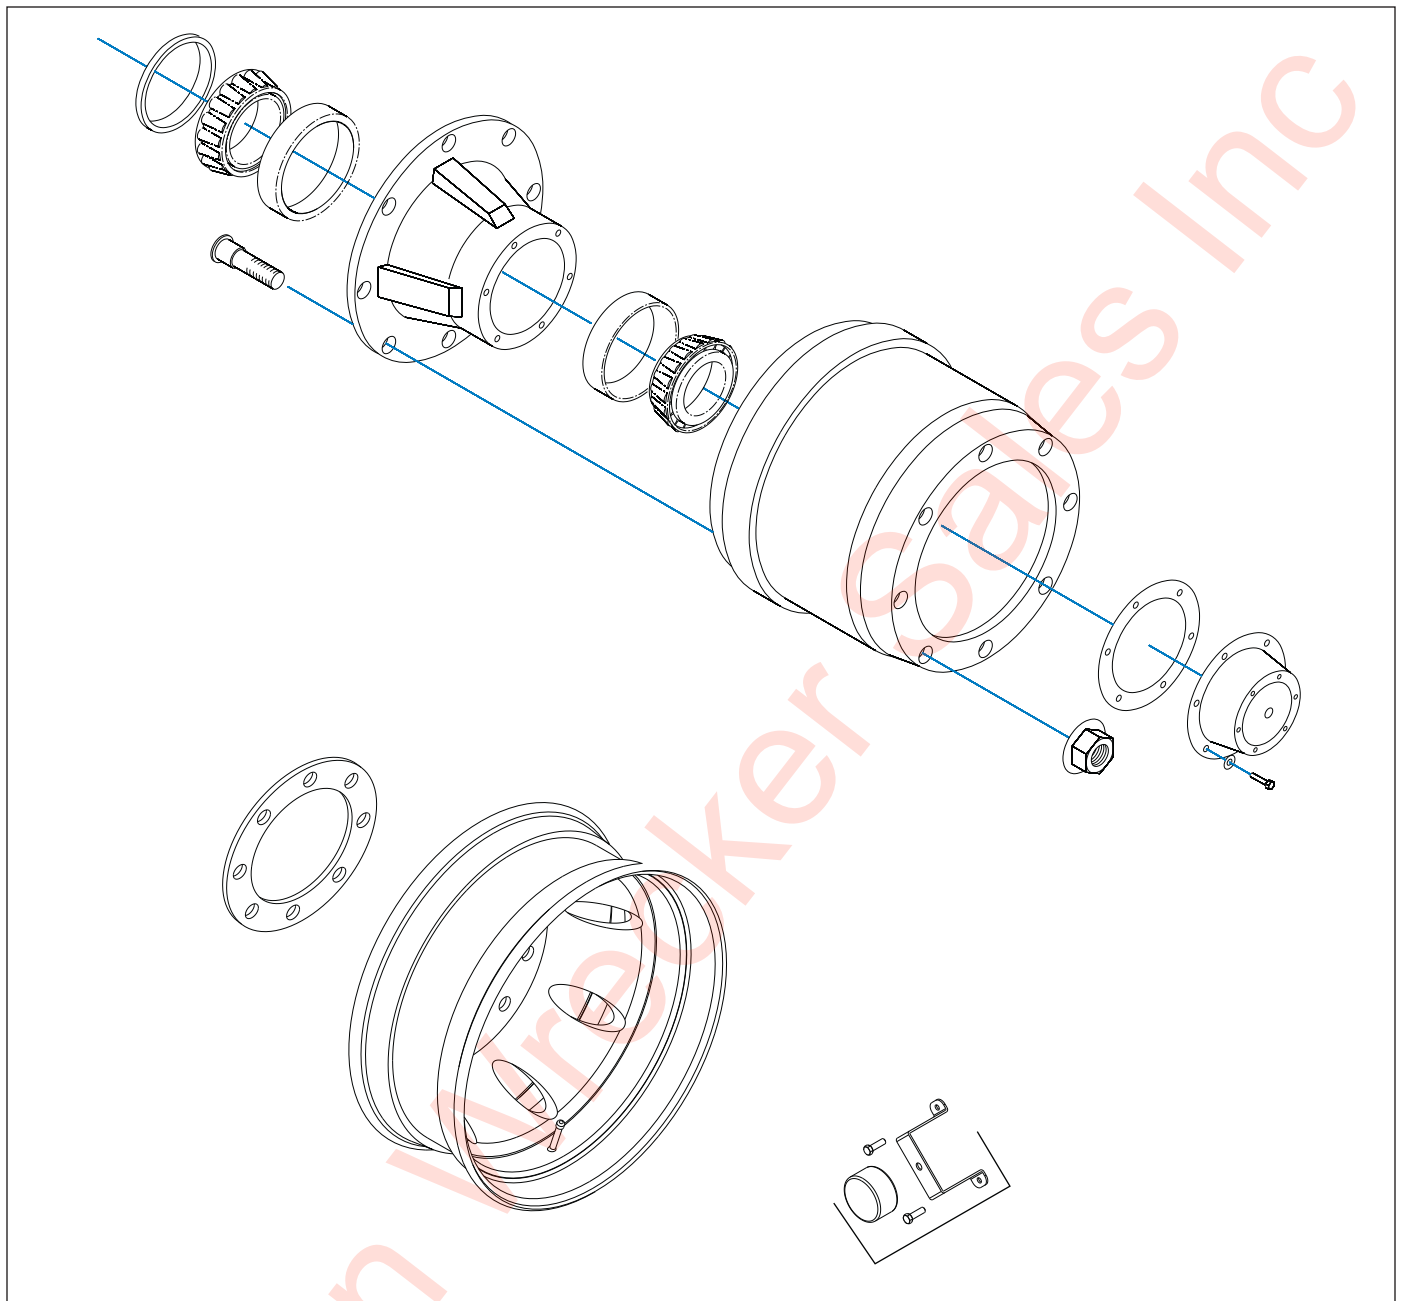

Figure 4-18: Outboard Mount Hub and Drum
4. Replace the hub and drum as follows: (*See Figure 4-18*)
- i. Place the drum over the hub and brake shoes being careful not to damage the threads on the studs (*See Figure 4-18.*) Make sure the drum seats flat against the hub flange and mates properly with the hub pilot. There should be no interference between the brake drum pilot chamfer and the corner radius on the hub. If interference exists, the hub will not be able to function properly.
- k. If studs are marked "R" or "L", right hand ®) hubs should be installed on the curbside of the vehicle, left hand (L) hubs should be installed on the driver side.